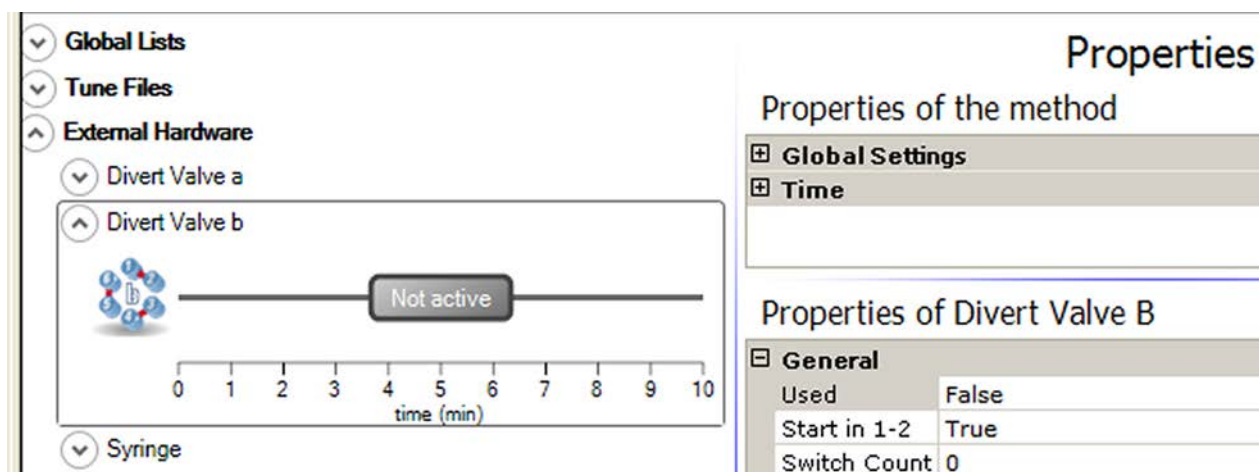

Figure 3-11. Properties of a switching valve that is not used
- Right-click in the pane to display the shortcut menu. Choose **Deactivate**. The blue color changes to a gray color . See Figure 3-11.